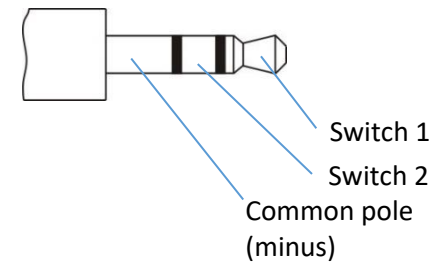

Figure 20: Pin assignment 2.5 mm jack plugs
2.5 mm jack plugs are used to connect the devices. The pin assignment is shown in Figure 20.